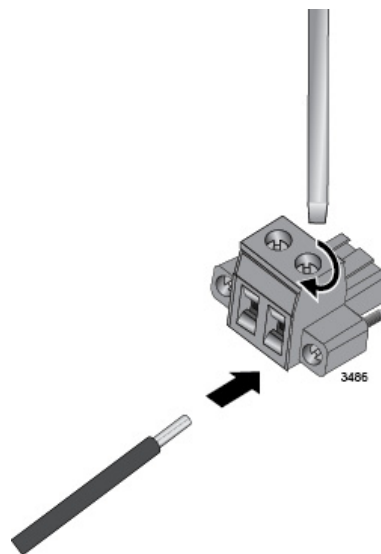

Figure 42. Inserting the RETURN Wire
6. Insert the black RETURN wire into the right connector and secure it by tightening the captive screw with a flat-head screwdriver. Allied Telesis recommends tightening the screw to 5 in-lbs. Refer to Figure 42.